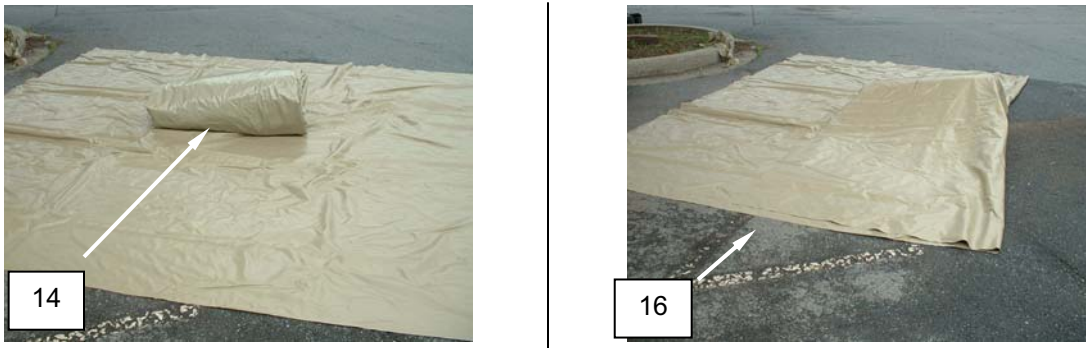

Figure 16. 3000 Graywater Tank.
14. Fold the ground cloth (Figure 16, Item 16) from one side to cover the tank (Figure 16, Item 14).